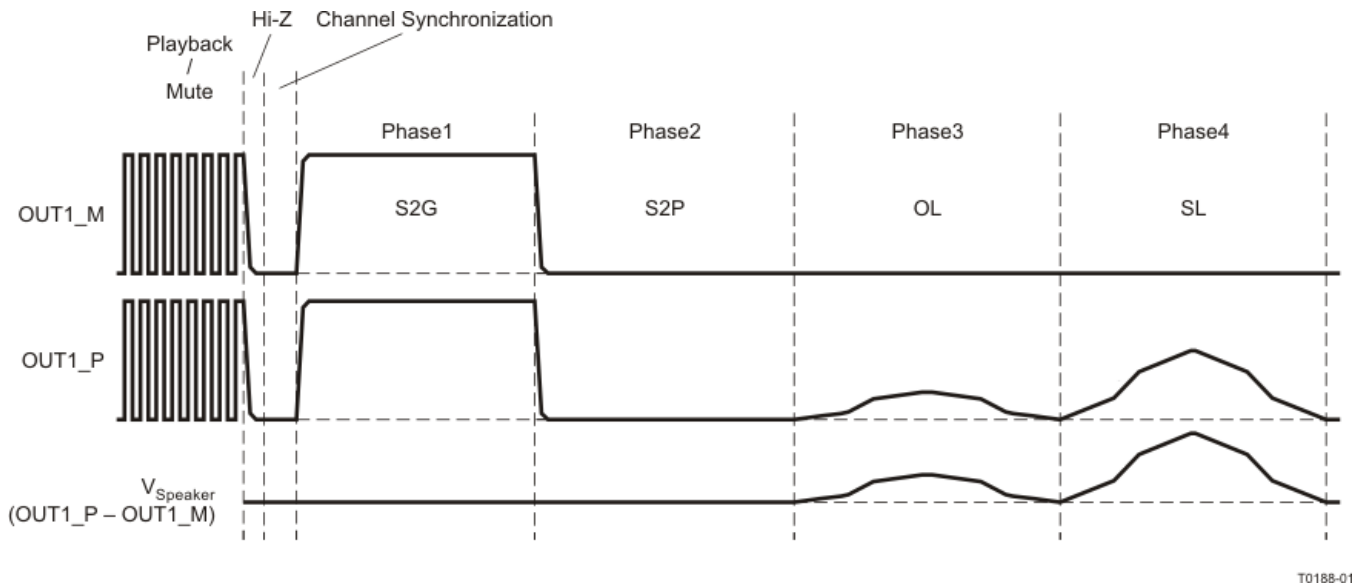
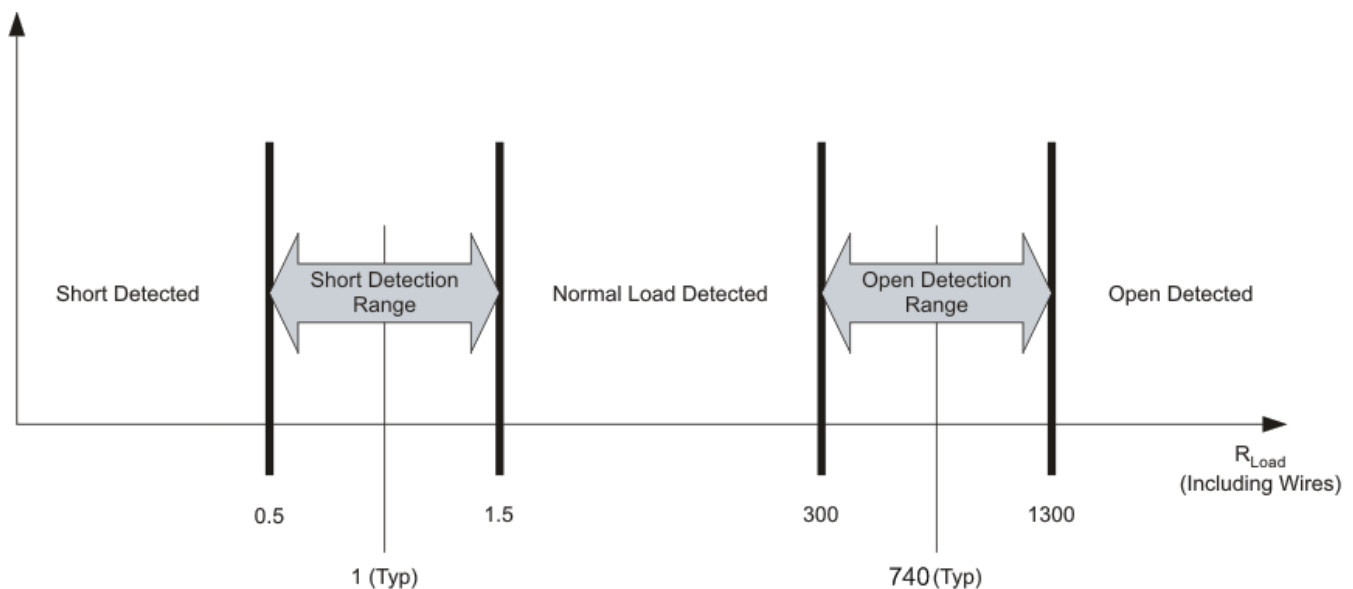

Figure 10. Load Diagnostics Sequence of Events
Figure 11. Open- and Shorted-Load Detection
1. **Output Short and Open Diagnostics** — The device contains circuitry designed to detect shorts and open conditions on the outputs. Invocation of the load diagnostic function can only occur when the output is in the Hi-Z mode. There are four phases of test during load diagnostics and two levels of test. In the full level, all channels must be in the Hi-Z state. Testing covers all four phases on each channel, all four channels at the same time. When fewer than four channels are in Hi-Z, the reduced level of test is the only available option. In the reduced level, the only tests available are short to PVDD and short to GND. Load diagnostics can occur at power up before moving the amplifier out of Hi-Z mode. If the amplifier is already in play mode, it must *Mute* and then *Hi-Z* before performing the load diagnostic. By performing the mute function, the normal pop- and click-free transitions occur before the diagnostics begin. Performance of the diagnostics is as shown in Figure 10. Figure 11 shows the impedance ranges for the open-load and shorted-load diagnostics. Reading the results of the diagnostics is from the diagnostic register via I²C for each channel. With the default settings and `MUTE` capacitor, the S2G and S2P phase take approximately 20 ms each, the OL phase